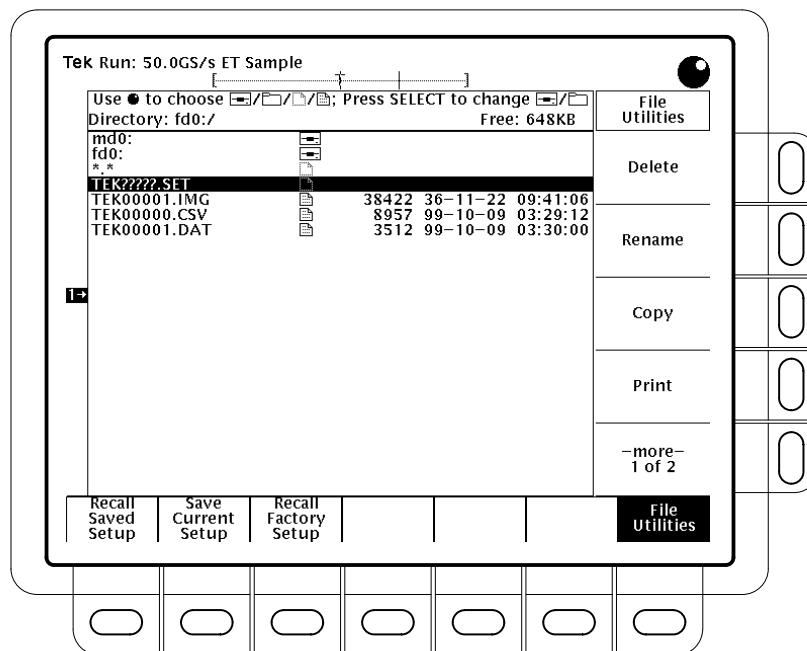

Figure 3–15: File Utilities
2. Press **File Utilities** in the main menu to bring up the File Utilities side menu. (See Figure 3–15.)
**NOTE.** The amount of free space on the disk is shown in the upper right corner of the display. The digitizing oscilloscope shows the amount in Kbytes (or in Mbytes if the free space is 1 Mbyte or more). To convert the amount to bytes, you simply multiply the Kbytes amount times 1024. Thus, the 690 Kbytes shown in Figure 3–15 = 690 Kbytes x 1024 bytes/Kbyte = 706,560 bytes.
The labelling menu should appear. Turn the general purpose knob or use the main-menu arrow keys to select each letter. Press **Enter Char** from the main menu to enter each letter. When you have entered the name, press the side menu **OK Accept** item. (See Figure 3–16).